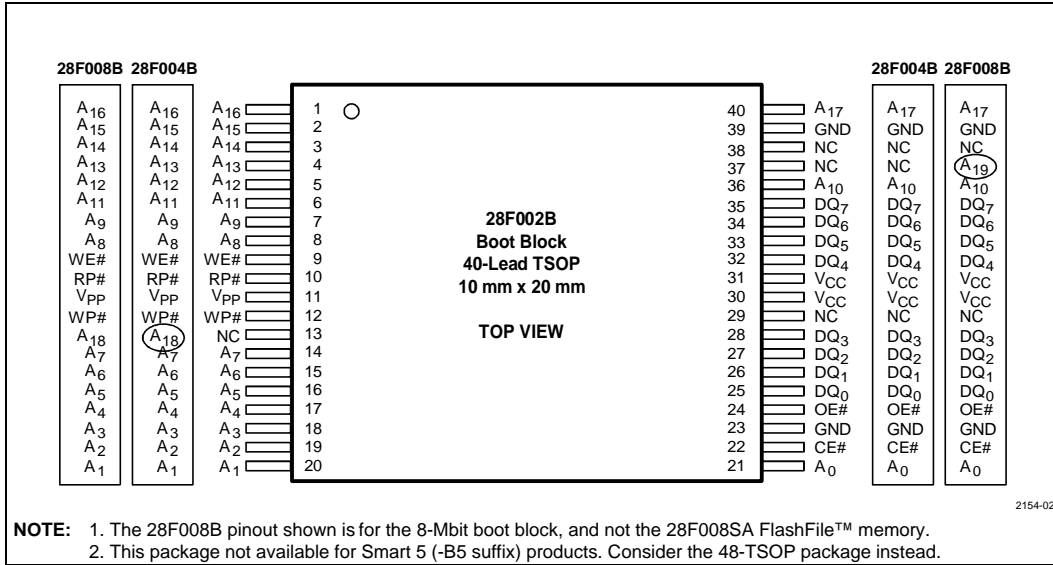

Figure 2. The 40-Lead TSOP Offers the Smallest Form Factor for Space-Constrained Applications
-002	Text updated. DU and WP# pin usage clarified. Note and "B" suffixes added to Figure 2. SmartVoltage Boot Block Products table: Speeds added to 28F800 and 28F008, 2.7V products added. Figure 10 updated.
Intel provides pinout-compatible upgrades for the 2-Mbit, 4-Mbit, and 8-Mbit densities. The pinouts in Figures 2, 3, and 4 illustrate these compatible upgrade paths. Upgrade issues are discussed further in Section 5.